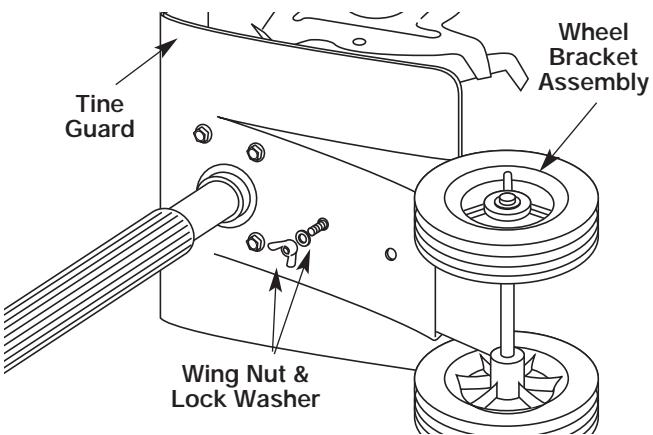

Figure 2
1. With the unit on its side, place the wheel bracket assembly on the underside of the tine guard. See Figure 2.
3. On the top side of the tine guard, install a lock washer and a wing nut onto each of the bolts. See Figure 2.